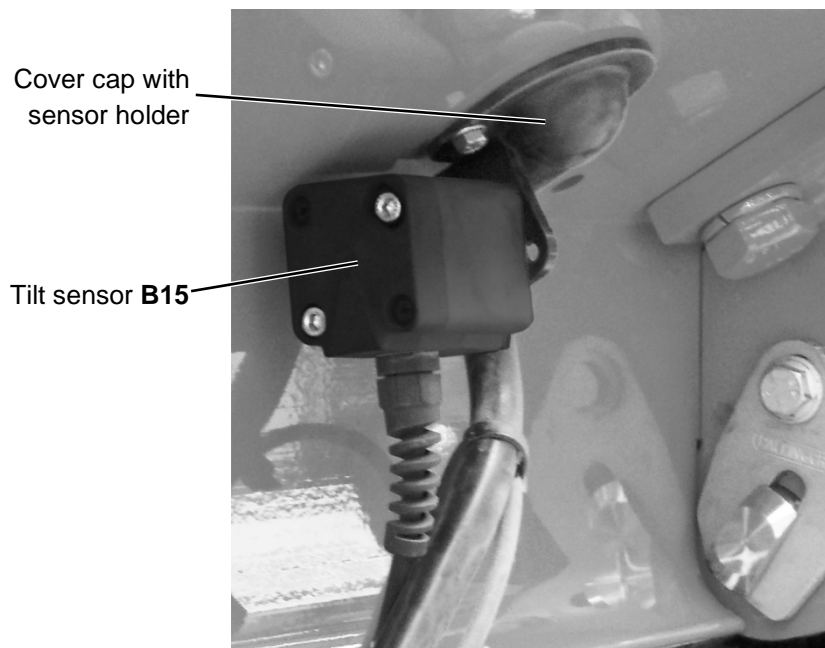

Figure 41: Cover cap with tilt sensor **B15**
- ▶ Screw the tilt sensor **B15** to the sensor holder of the cover cap as presented in Figure 41, page 62, (tightening torque: 5 Nm).